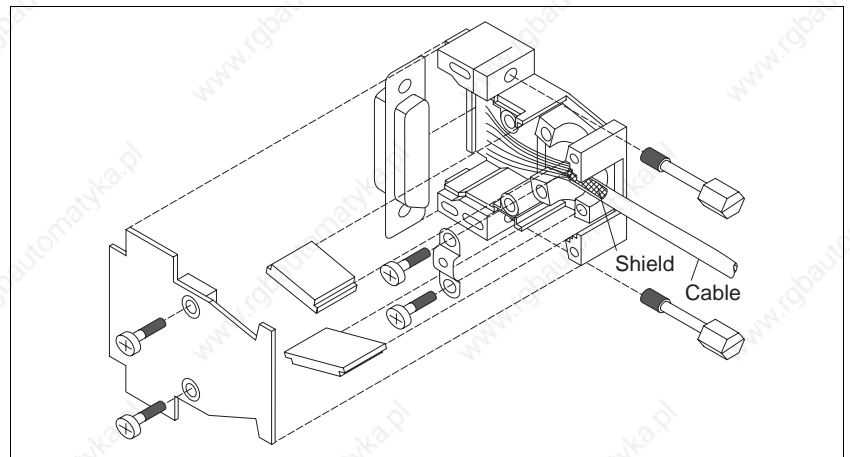

Fig. 2-10 Signal connector assembly - device end
3. Insert two hexagon head bolts (fig. 2-10) into the connector shell.